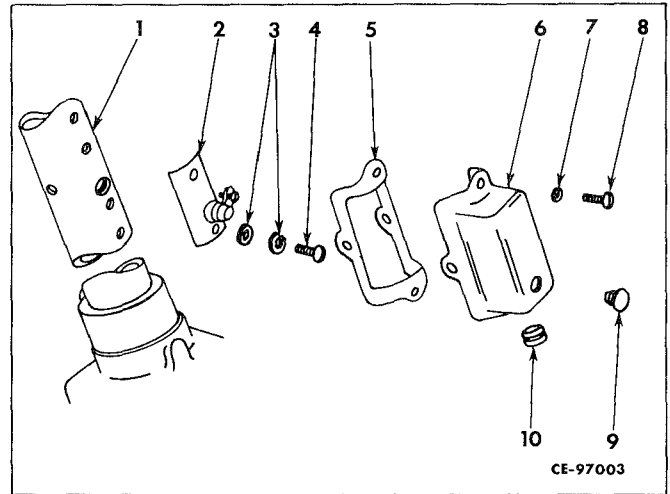

Figure 8-32
Insert horn wire down thru jacket and tube (1, Fig. 8-32) and out thru contact brush (2) and grommet (10). Install grommet and rubber plug (9) in cover (6). Secure contact brush to jacket and tube with screws (4) lock washers and